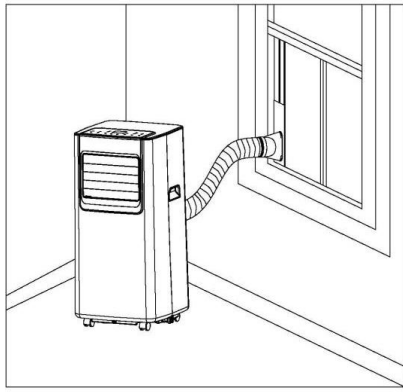
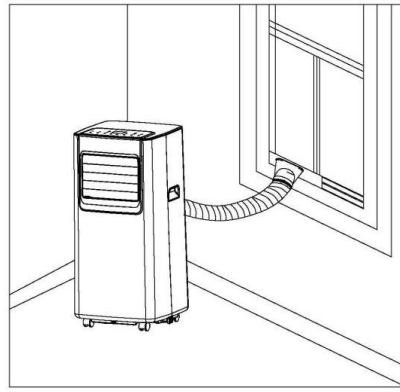

Fig.3
Fig.4
- 1) Elongate the exhaust pipe (as shown in Fig.3 and Fig.4).